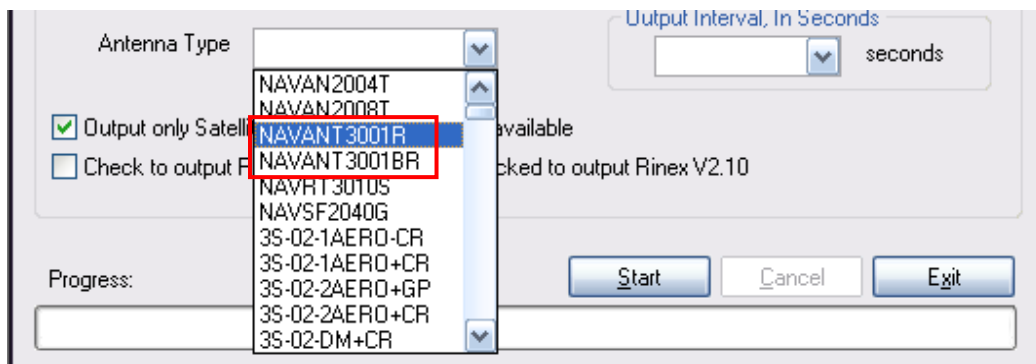

Figure 162: Antenna Type
The conversion options available in the *User Input* and *Options* areas of the RINEX Utility window are not always necessary to complete the conversion. However, selecting the appropriate *Antenna Type* is always recommended to obtain the best results (see Figure 162).
- ✓ **Antenna Type:** Select the antenna type used to collect the data. Figure 162 identifies the NavCom antennae available in the drop-down list: